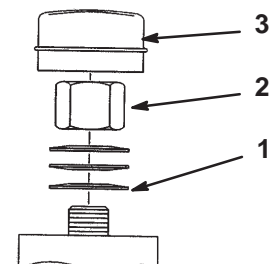

Figure 48
3. Remove the dust cap from the caster and tighten the locknut (Fig. 48).
4. Tighten until the spring washers are flat and then back off 1/4 turn to properly set the preload on the bearings (Fig. 48).
Important Make sure that the spring washers are installed correctly as shown in Figure 48.